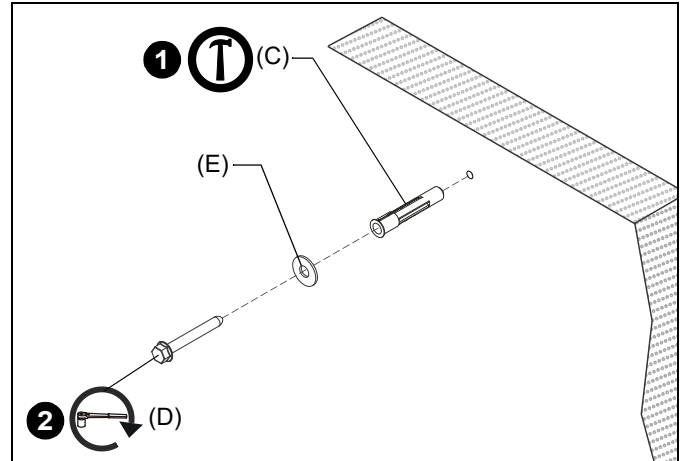

Figure 26
1. Install one UX10X60R anchor (C) into each pilot hole using a hammer, making sure that the anchor is flush with the wall. (See Figure 26)
2. Use one 5/16" x 2-1/2" hex flange head lag bolt (D) and one 5/16" washer (E) through product into each anchor in wall. (See Figure 26)
**NOTE:** 5/16" washers (E) may not be necessary if using adjustment washers (A and B) to install to wall.